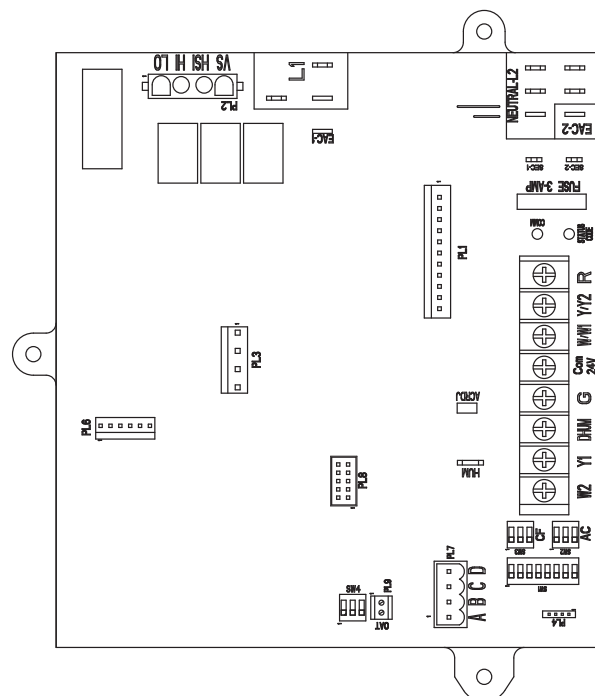

Fig. 15 - Detail of Furnace Board
Both the furnace and heat pump (HP)/air conditioner (AC) boards have an amber LED and a green LED. On the HP/AC board, these are located near the System Communications connector (ABCD) (lower right corner of the HP/AC board as installed in the unit). On the furnace board, these are located at the upper right side, adjacent to the fuse, above the terminal block. The amber LED is the System Status LED, labeled STATUS. The green LED, labeled COMM, is used as an indicator of system communications status (See Fig. 15 and 18).